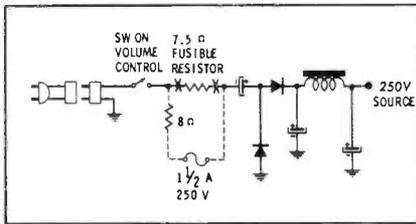

Fig. 2. Resistor protects against the surge inherent in metallic rectifiers.
- Never replace a fusible resistor with a fuse alone*. The resistor also acts as a current limiter to prevent damage to the rectifier during warm-up. Therefore, if a fuse is installed as a replacement, a series resistor should be added, as shown in Fig. 2.